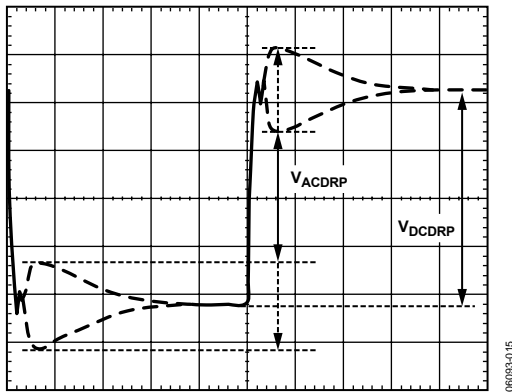

Figure 17. AC Load Line Waveform
- Measure the output waveform (use dc offset on scope to see the waveform). Try to use a vertical scale of 100 mV/div or finer. This waveform should look similar to Figure 17.
- Use the horizontal cursors to measure V_{ACDRP} and V_{DCDRP} as shown in Figure 17. Do not measure the undershoot or overshoot that happens immediately after this step.